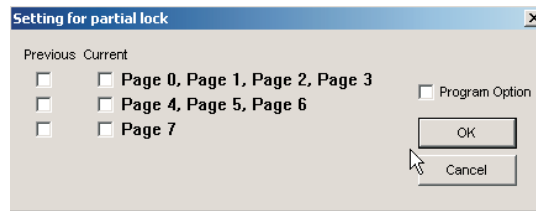

Figure 11
At first, this instruction will display a dialog box "Setting for partial lock" as shown in Figure 11. The following selections have to be set before download.
- If there is at least one page selected in the "Current" column as shown in Figure 11, then the writer will lock these selected page(s) when the Lock key is pressed.
- If no page is selected in the "Current" column as shown in Figure 11, the writer will lock all pages when this key is pressed, i.e, it will lock the whole program memory.
- Do not select "Program Options" in Figure 11
- Do not select any page in the "Previous" column of Figure 11
- Select pages being locked in the "Current" column of Figure 11
- Select pages which have been already locked in the "Previous" column in Figure 11
- "Program Options" must be selected in Figure 11
- Select pages which have been already locked in the "Previous" column of Figure 11